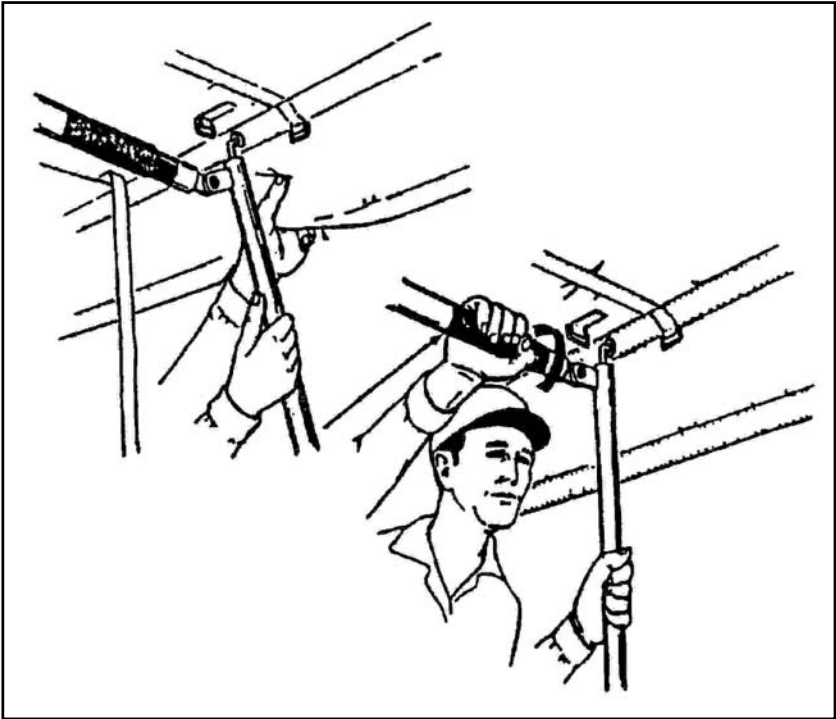

Figure 3-10. Extending Roof Canopy
- c. Have them rotate the small adjustable strut on the tent poles until the fabric is tight (see Figure 3-10).